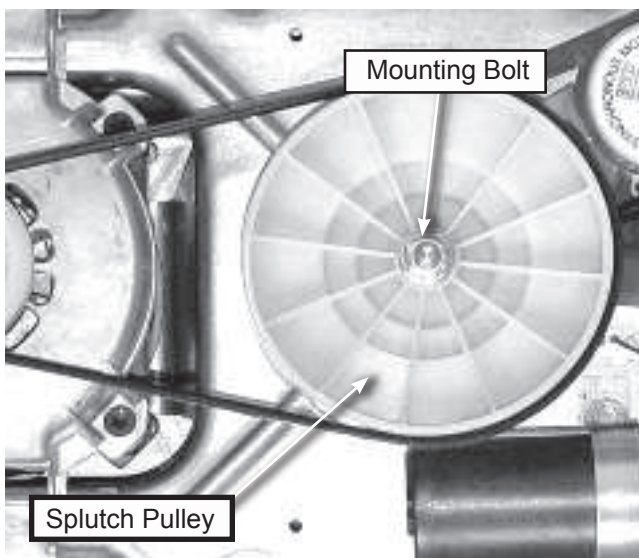

Figure 1
4. Hold the splutch pulley and remove the mounting bolt, see figure 1.